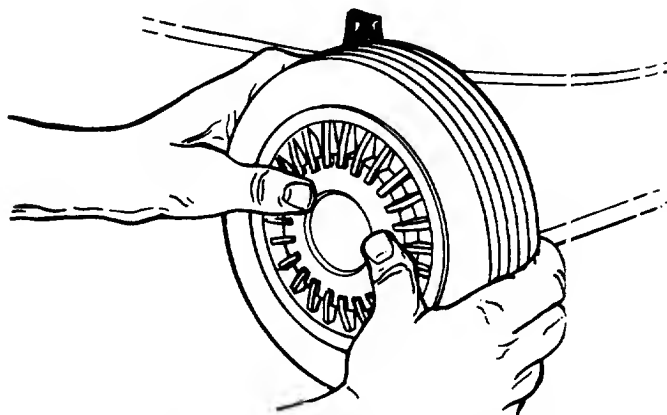

FIGURE 6.—5½" Diameter Hub Cap Shown
1. Place hub caps in position against the inner hub of the wheel. To install 5½" diameter hub caps, press firmly around the center portion of hub cap in a circular motion, similar to installing a lid on a round, plastic container. See figure 6. The hub caps are flexible and will snap over wheel hubs.